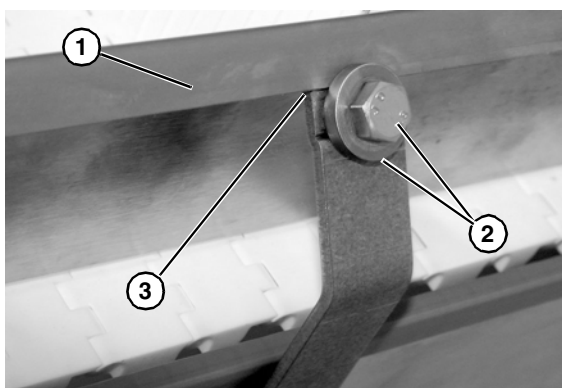

Figure 16
3. Attach guide (**Figure 16, item 1**) to the mounting brackets with hex bolts and spacers (**Figure 16, item 2**). Hand tighten only at this time.
4. Ensure that nose of bracket slips under the lip of guide (**Figure 16, item 3**).